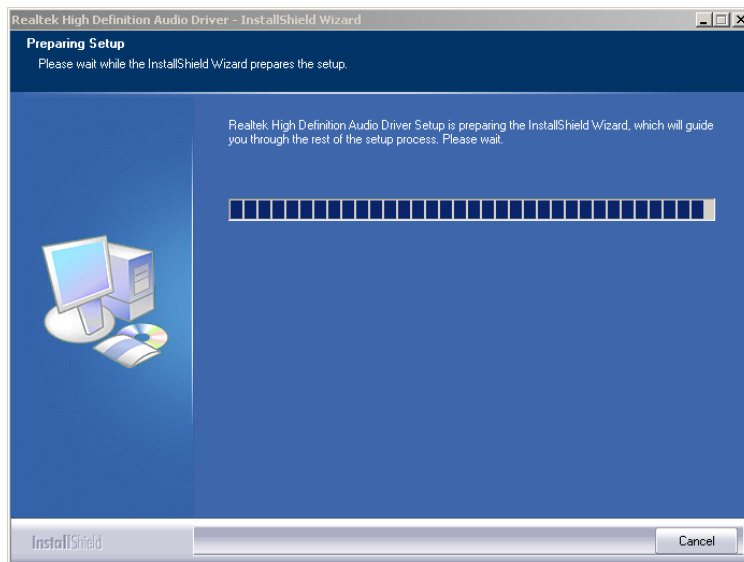

Figure 7-31: Preparing Setup Screen
Step 8: The InstallShield Wizard is prepared to guide the user through the rest of the process (Figure 7-31).